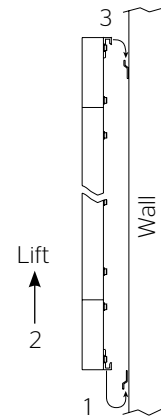

Figure 4
4. Attach the small wall bracket to the wall. Refer to Figure 4 for proper orientation. Do not tighten the screws completely. The bracket should slide up and down easily.
6. After the surface is attached, hang the screen on the brackets by hooking the bottom of the frame onto the small wall bracket and lift up until you can hook the top of the frame on the top bracket. Gently push down on the frame to seat it on the brackets. Refer to Figure 4.